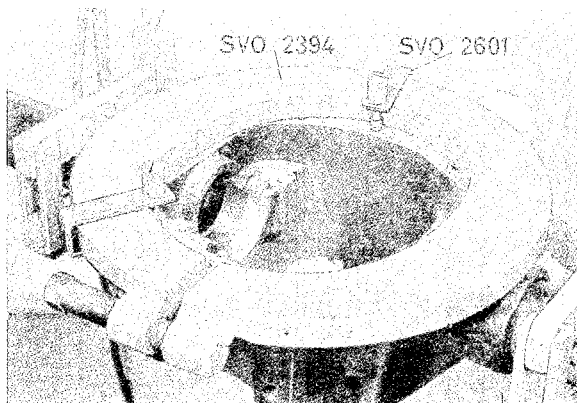

Fig. 4-142. Expanding drive pinion carrier
6. Fit tool 2394 in the holes in the drive pinion carrier as shown in Fig. 4-142. Fit the tool with retainers 2601. Tension the tool until it fits exactly in the holes in the carrier. Then tension the bolt a further 3–3½ turns. Lift out the differential carrier with ring gear. Tool 2337 can be used for this purpose.